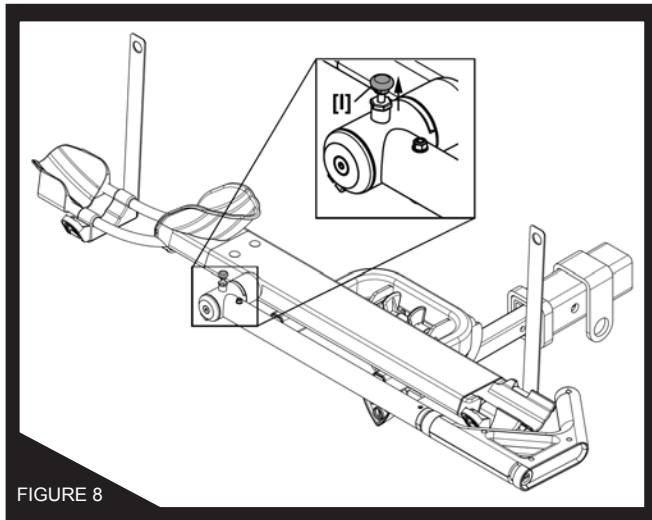
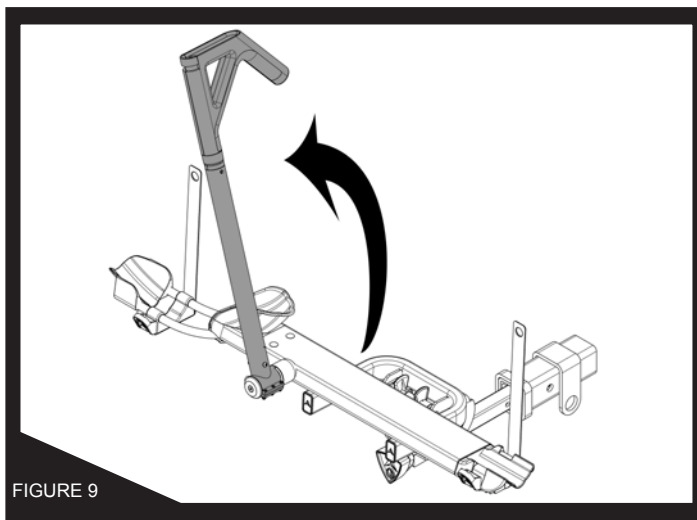

FIGURE 8
FIGURE 9
STEP 6: Raise Bike Spar Arm, lift pull pin [I] as shown in Fig. 8, while rotating Spar Arm to its full forward position, Fig 9.